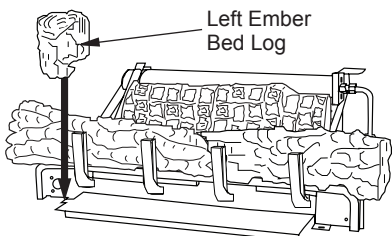

Figure 39 - Installing Left Ember Bed Log
4. Place left ember bed log (18" D-073, 24" & 30" D-048) as shown in Figure 39. The log has groove on one side that sets on the ember bed pan. The back side of this log needs to rest against the front of the base assembly. Make sure the flame from the ember pan does not touch the ember bed log.